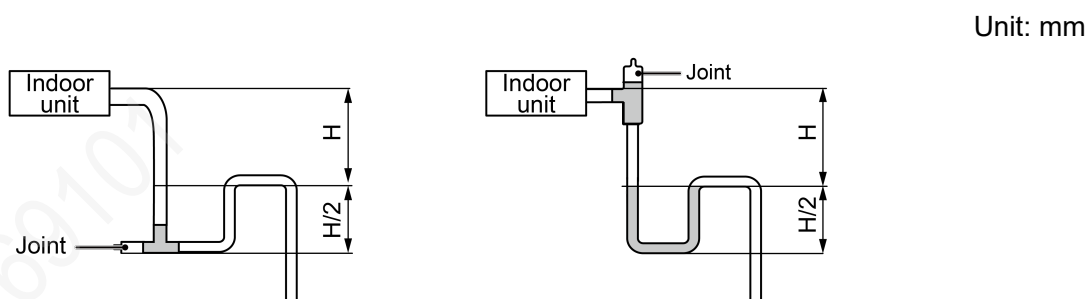

Fig 4.11
- (5) For indoor units that have high pressure at the outlet of drain pipe, use water-sealed joint.
(6) For indoor units that have high pressure at the outlet of drain pipe, use water-sealed joint.
(7) Install the water-sealed joint according to Fig 4.11.
(8) Each unit should be installed with one water-sealed joint.